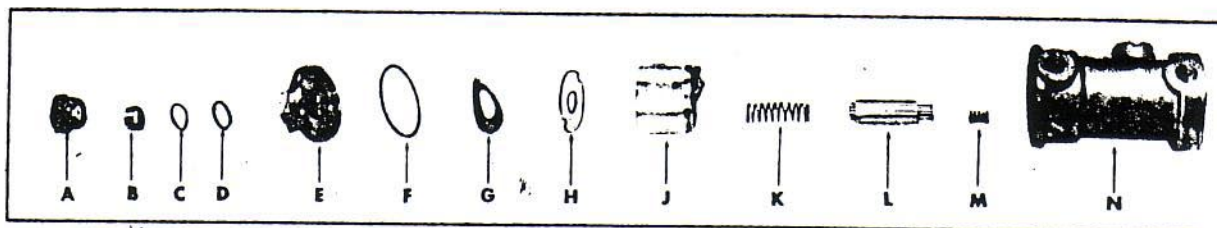

FIGURE 3
1. Using a 1-1/8" open end wrench, remove intake valve by turning counter-clockwise (A, Figure 3).
2. Using Tool No. T-281843 remove coil base (E, Figure 3) by turning counter-clockwise. Washer (C, Figure 3) will fall out.
3. Remove "O" ring from center opening of coil base (D, Figure 3).
4. Remove coil tension washer (G, Figure 3).
5. Gently tap pump body on flat surface. Coil and gasket (F & J, Figure 3) will fall out.
4. Replace coil tension washer curved side toward the coil base (G, Figure 3).
1. Place "O" ring (D, Figure 3) in place and if necessary push down with a small